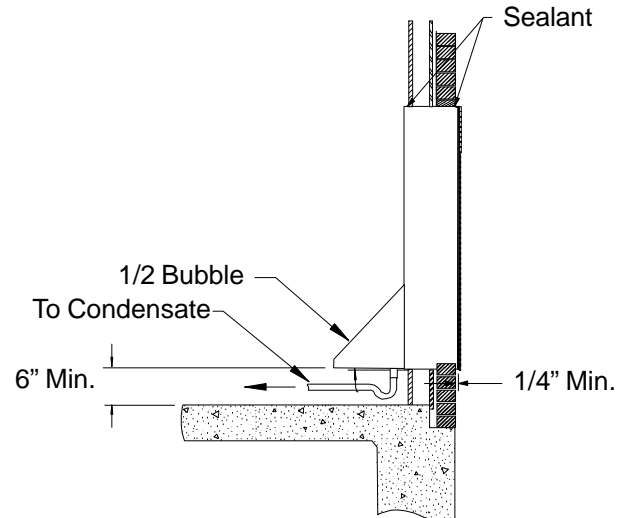

Figure 4
2. The front edge of the sleeve should protrude 1/4" from the finished outside surface of the wall (Figure 4).
3. Align the sleeve with the wall so that the bottom pan is angled 1/2 bubble toward the outside of the building (Figure 4).
6. Place a bead of silicone sealant or other high grade non-hardening sealing compound approved for exterior use to seal the gap between the wall sleeve and both the inside and outside wall surfaces (Figure 4). Sealant should also be applied around the heads of the fasteners used to secure the sleeve.